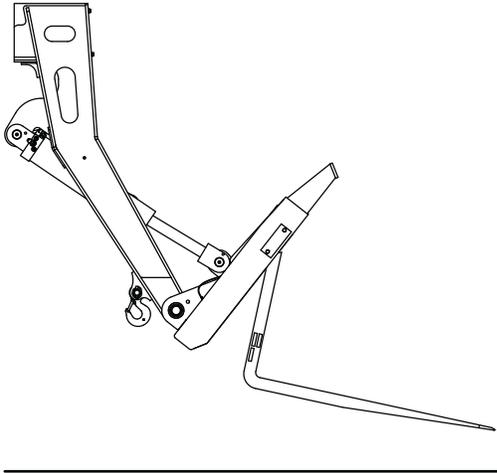

Figure 38 Fork Pivoting on the Bar
2. Tilt the attachment forward until the fork pivots on the bar, and no longer resting on the carriage's bottom rail (see Figure 38). This prevents binding on the bar, thus aiding its repositioning.